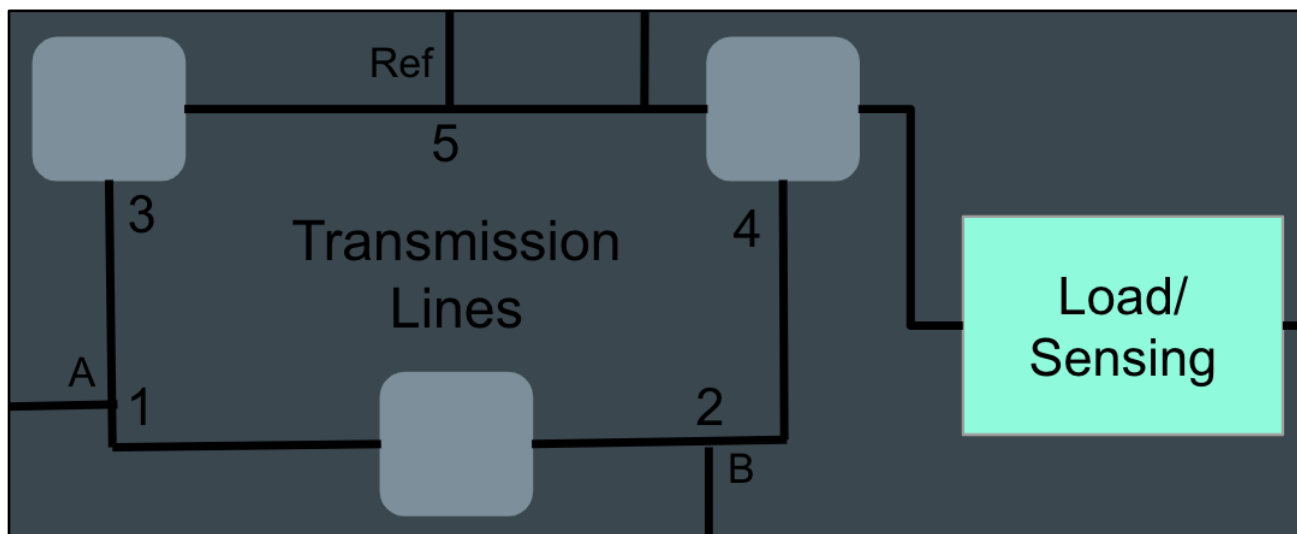

Figure 1: Basic schematic of the grid
2. Attach the probes to point 1 and point 3 (comparing Generator A to the point it is being added to the grid), according to Figure 1.
5. These steps will be repeated for generator B, with the PicoScope initially measuring at points 2 and 4 in Figure 1 (moving point 2 to point 5 in step 4). After closing the toggle switch, if voltage amplitudes are remaining constant, then the grid is running properly.